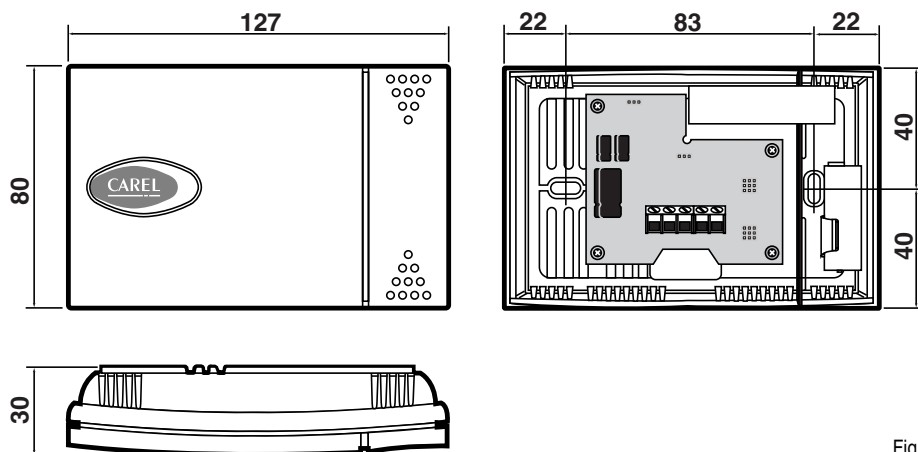

Fig. 6
**Sonde da parete "ASW" (Fig. 6)**
**"ASW" wall probes (Fig. 6)**